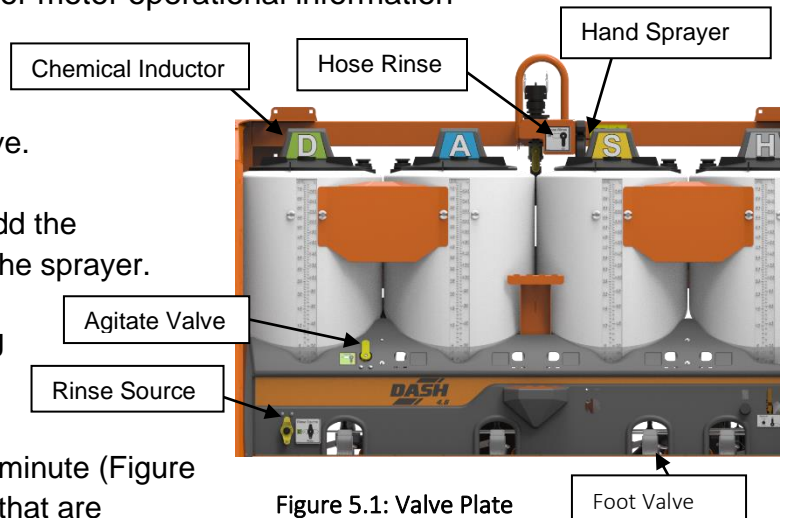
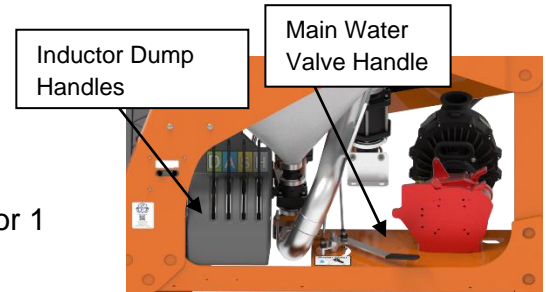

Figure 5.1: Valve Plate
Figure 5.2: Chemical Dump Handles and Pump Motor
3. Change the rinse source to inductor D or J (Figure 5.1).
4. Turn on the agitate valve and let run for 1 minute (Figure 5.1). Also, run any optional agitate valves that are installed.
5. Ensure main water valve (Figure 5.2) is closed and pump outlet is blocked then open all 4 of the inductor valves (Figure 5.2). The hand sprayer can be used to clean manually if desired.
7. Connect main hose to sprayer and empty all inductors using the gas-powered water pump (Figure 5.2). Close inductor valves when finished.
8. Change the rinse source to water and fill the left inductor D or J, depending on the model, with minimum 30 gal using the agitate valve. (Figure 5.1).
9. Turn on the agitate valve and let run for 30 seconds (Figure 5.1). Also, run any optional agitate valves that are installed.
12. Connect main hose to sprayer and empty all inductors using the gas-powered water pump (Figure 5.2). Add more fresh water as needed for sprayer rinse.
14. Turn on the agitate valve (Figure 5.1) and fill left inductor with enough fresh water to push any rinse water out of the main water hose.
15. Change the rinse source to inductor D or J (Figure 5.1).
16. Turn on the agitate valve and let run for 30 seconds (Figure 5.1).
17. Turn the rinse source back to water (Figure 5.1).
4. Run all installed agitate valves to vent water from lines. (Figure 5.1)
5. Open all the inductor valves (Figure 5.2). Using foot valves activate all jug rinse nozzles to vent hoses. (Figure 5.1)
7. Set Rinse Source to Water. (Figure 5.1)
10. Set Rinse Source to D or J. (Figure 5.1)
11. Turn on all installed Agitate valves for 5 sec. (Figure 5.1)
12. Turn on Hand Sprayer for 5 sec. (Figure 5.1)
13. Ensure the main water valve is closed. (Figure 5.2)
14. Open each inductor dump valves in turn. (Figure 5.2)
15. Close inductor dump valves. (Figure 5.2)
4. Set Rinse Source to Water. (Figure 5.1)
5. Turn on all installed Agitate valves and let run for 30 sec. (Figure 5.1)
6. Open inductor valves to turn on all the inductor rinse valves. Let run for 1 minute. (Figure 5.2)
8. Turn on Hand Sprayer and let it run until the antifreeze is flushed out. (Figure 5.1)